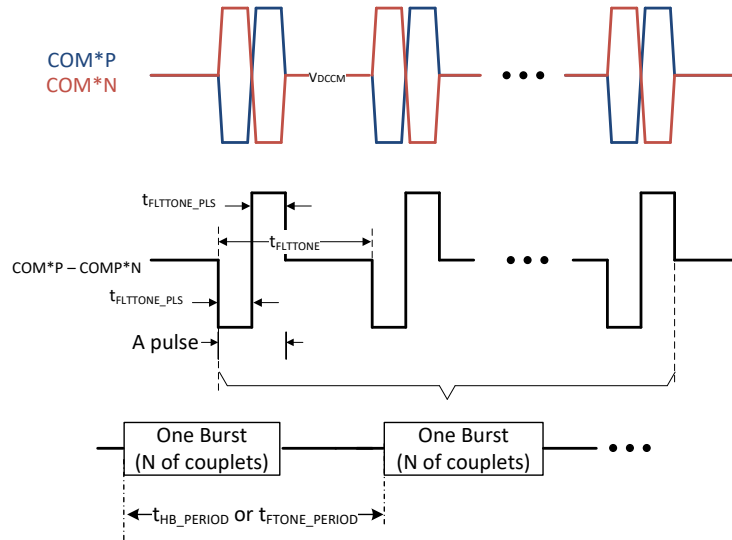
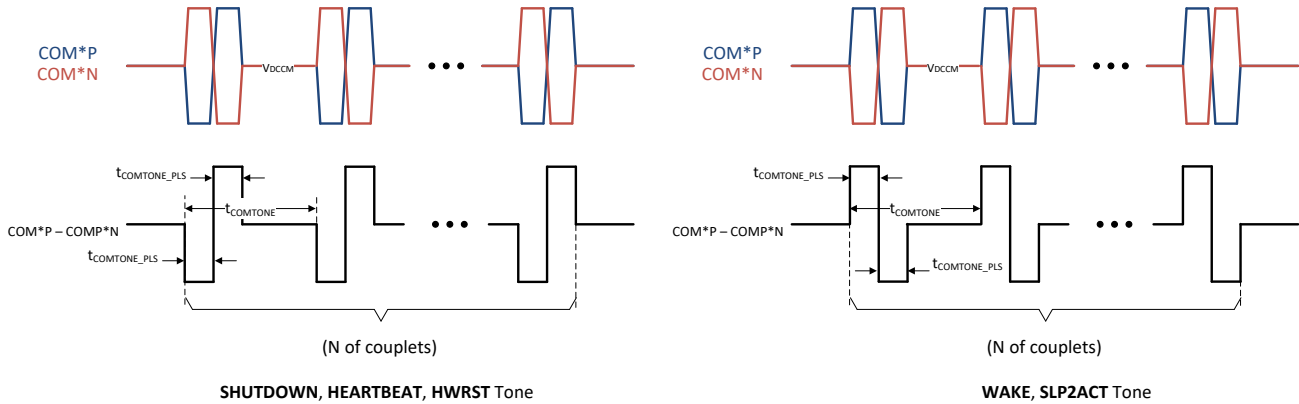

Figure 7-21. FAULT Tone and HEARTBEAT Tone Definition
Figure 7-22. SHUTDOWN, HEARTBEAT, HWRST, SLP2ACT Tone Definition
Other than data, certain information is transmitted using tone: signals to change power state of stack device (SLP2ACT tone, WAKE tone, SHUTDOWN tone, HWRST tone), signals related to faults (FAULT tone and HEARTBEAT tone). The definition of each tone is defined in Figure 7-22 and Figure 7-21.
Table 7-9. Auto-Addressing with Figure 7-22(a), assume all devices are in SHUTDOWN
**Table 7-9. Auto-Addressing with Figure 7-22(a), assume all devices are in SHUTDOWN (continued)**
**Table 7-10. Auto-Addressing Figure 7-22(b), assume all devices are in SHUTDOWN**
**Table 7-10. Auto-Addressing Figure 7-22(b), assume all devices are in SHUTDOWN (continued)**
Both the Heartbeat and Fault Tone are a type of tone similar to the communication. One main difference is a communication tone only transmits with a single burst of couplets, while Heartbeat and Fault Tones are sent with a burst of couplets periodically. See Figure 7-21 for details.